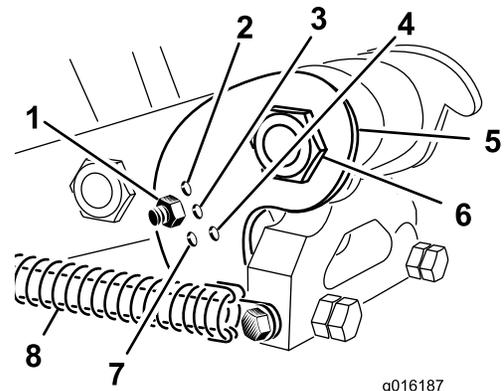

Figure 37
Set the camber bracket (Figure 37) to the correct position based on the length of tines to be used. The head stop is set to one of five predetermined positions by choosing the hole through which the adjustment rod is bolted. These holes are presets only; for instance, by using a 10 inch tine in the 12 inch position you may achieve a smoother finish; depending on the application.
- Release the spring tension to the tine head (Figure 37).
- Remove the nut and bolt in the adjustment holes in the camber bracket (Figure 37).
5. Rotate the camber bracket until it is aligned with the desired hole in the arm and install the bolt and nut (Figure 37).